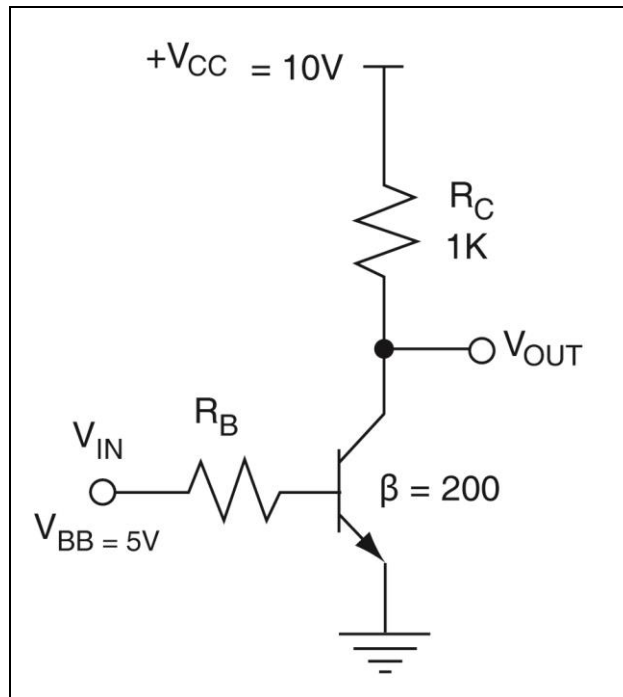

Fig. 3.3-11 Transistor Switching Example
- For the transistor switching circuit in Fig. 3.3-11, what is V_{CE} when $V_{IN} = 0 \text{ V}$?